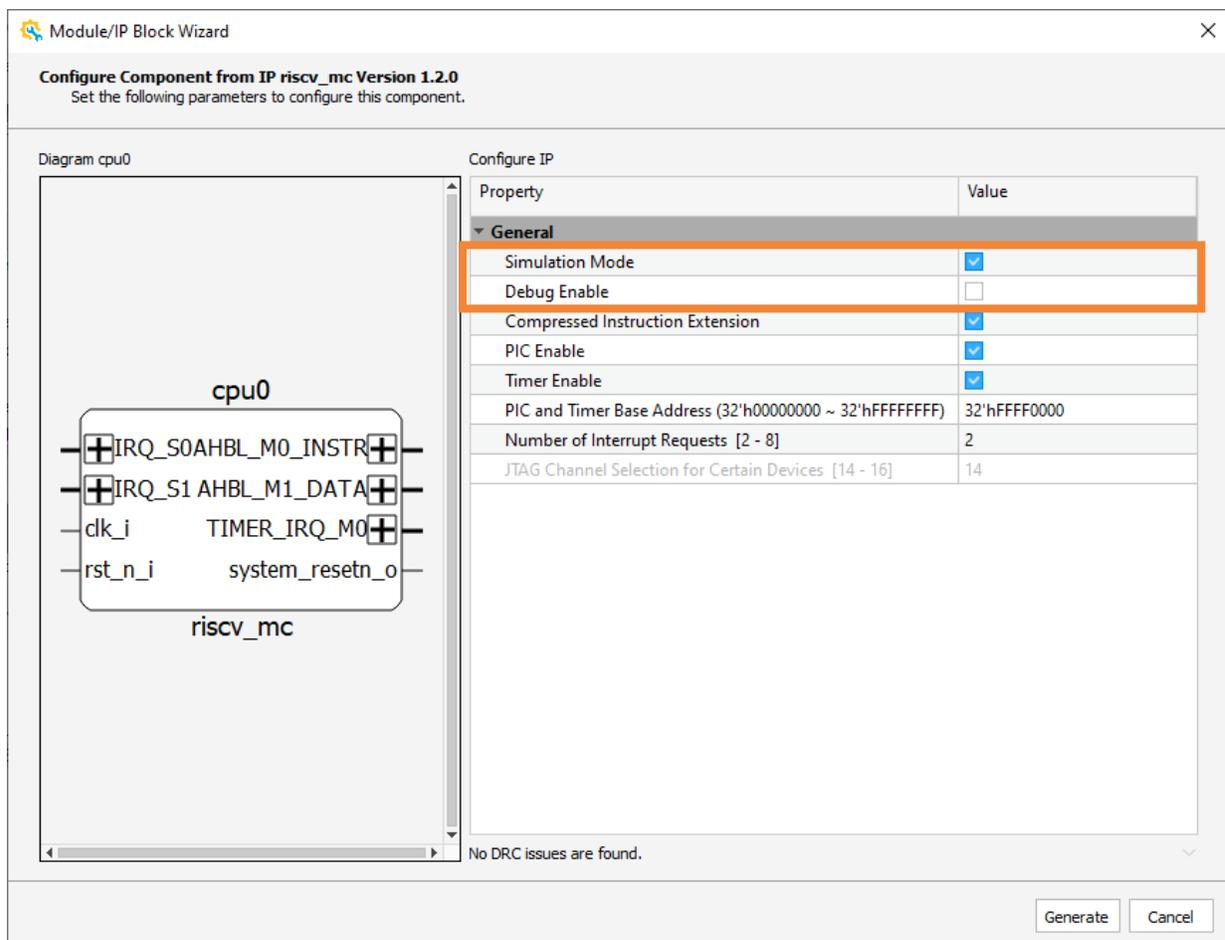

Figure 3.27. Configure Module RISC-V MC
- Enable the checkbox for **Simulation Mode**, and disable the checkbox for **Debug Enable** for *RISC-V MC* module in the **General** area (Figure 3.27).